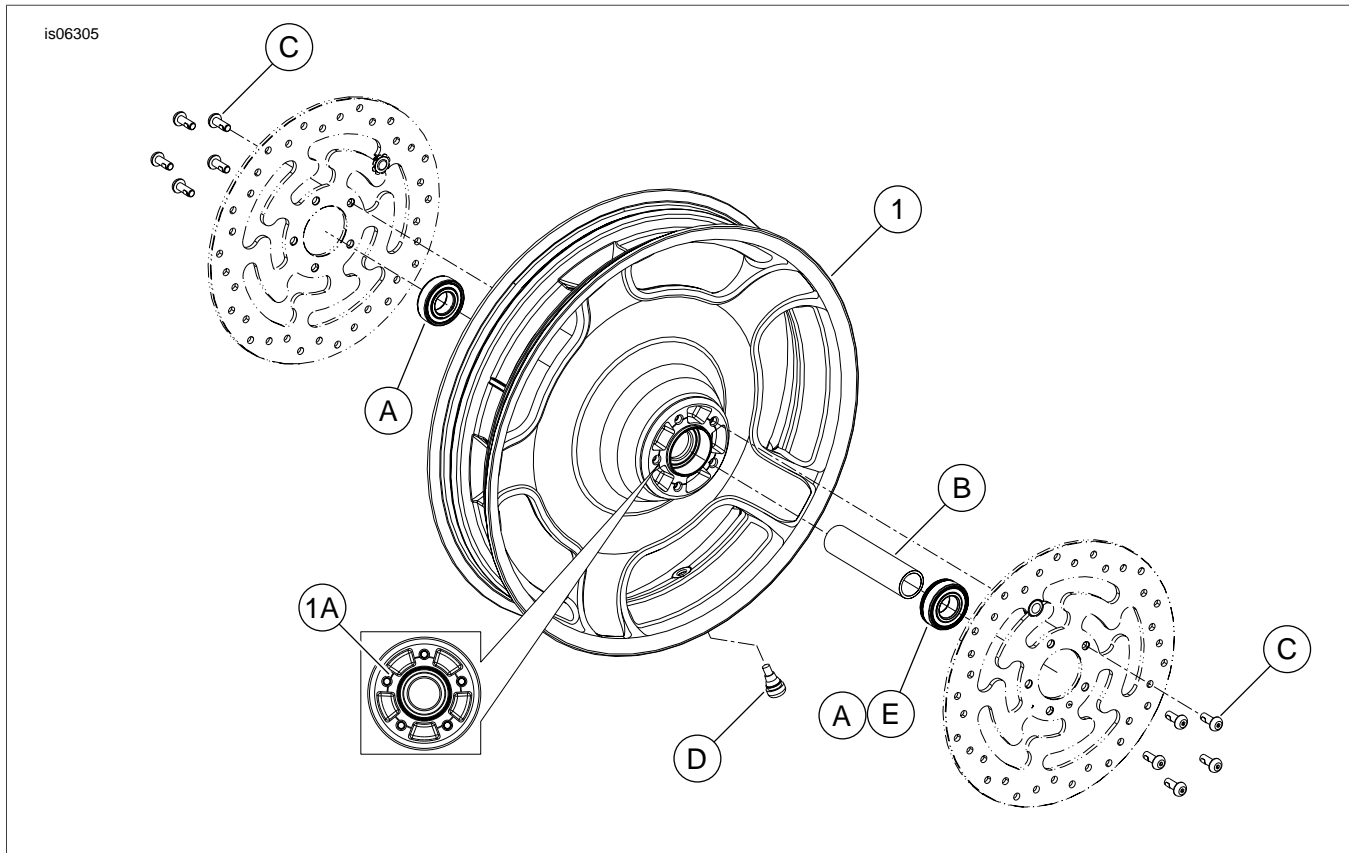

Figure 1. Service Parts: Front Slotted Disc Wheel
See Figure 1 and Service Parts Tables.
2. See Figure 1. Install valve stem assembly (D) on wheel. Refer to TIRES in service manual.